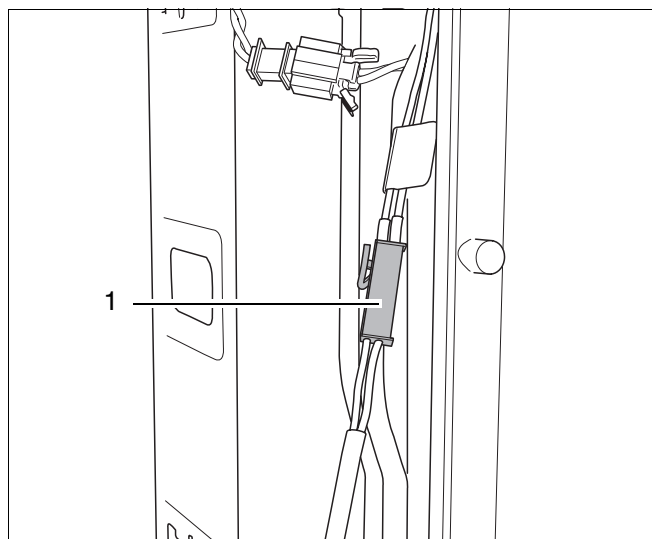

fig. 87 Disconnect plug of hot surface ignitor
- Disconnect the plug (fig. 87, item 1) of the hot surface ignitor.
- Disconnect the plug of the hot surface ignitor (fig. 87, item 1).